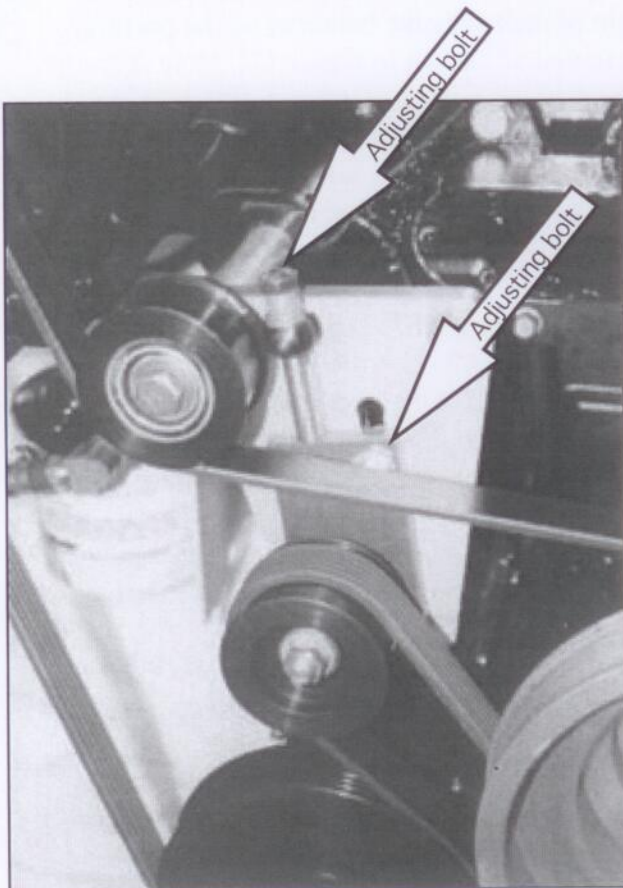
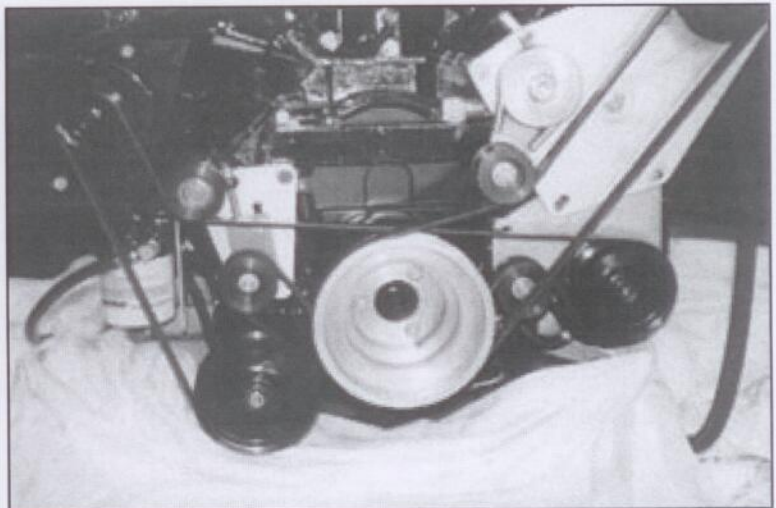

FIGURE D8
FIGURE D9
10. Install the new 6 rib belt as shown in figure D9. Tension by tightening the adjusting bolt at the top of the mounting bracket, then tightening the bolt on the sliding tensioner bracket to keep in place. (See figure D8)